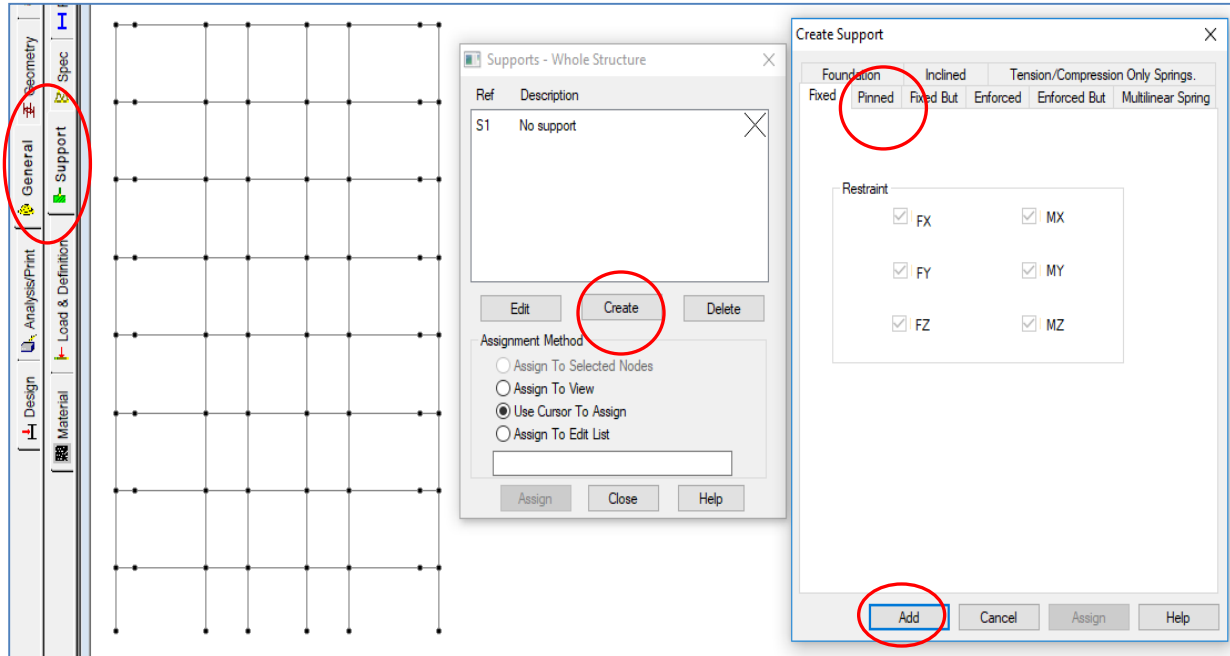

Fig: 5.11
2.1.2 From left side Click on General → Support → Create → Fixed → Add. (Fig: 5.11)